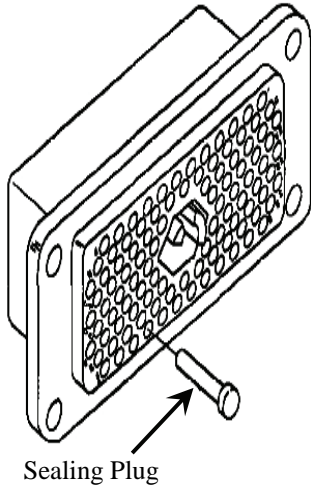

Figure 14 Inserting Sealing Plug into Contact Cavity
- b. Insert M85028/4 sealing plug, small diameter first, until bottomed in contact cavity (Figure 14). Do not insert further than knob. Fill all cavities that have un-crimped contacts.